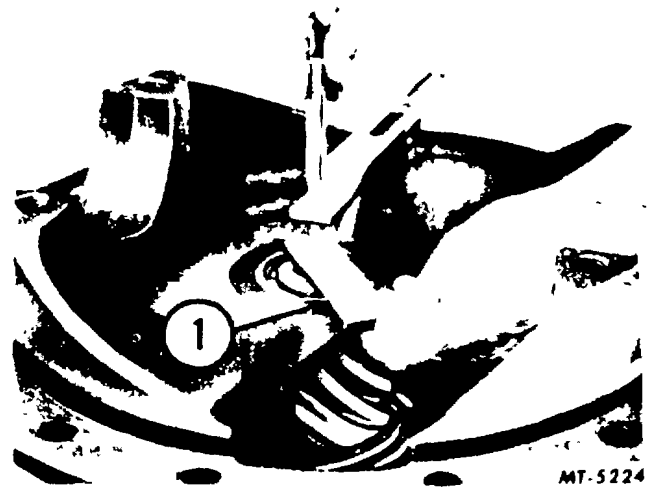

Fig. 27. Installing Step Plate
3. Install step plate under clamp screw and tighten screw to hold the step plate securely in position as shown in Fig. 27. The step plate is necessary in order to project the face of the pinion to where it can be measured by the gauge which is on the centerline of the ring gear. Be sure lugs on step plate straddle the bearing staking indentations on end of pinion.